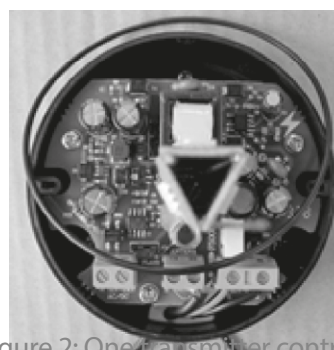

Figure 2: One transmitter controls 4 Receivers
2) Learning method of 1 transmitter controlling 4 receivers: power off and open the remote control receiver shell, insert the jumper cap as shown in Figure 2, and then connect the remote control power supply, respectively use 4 keys on the transmitter according to the requirements. Learning code matching can be made according to the learning method of 1 transmitter controlling 1 receiver corresponding to match 4 receivers by referring to that in above paragraph, as shown in the below figure: